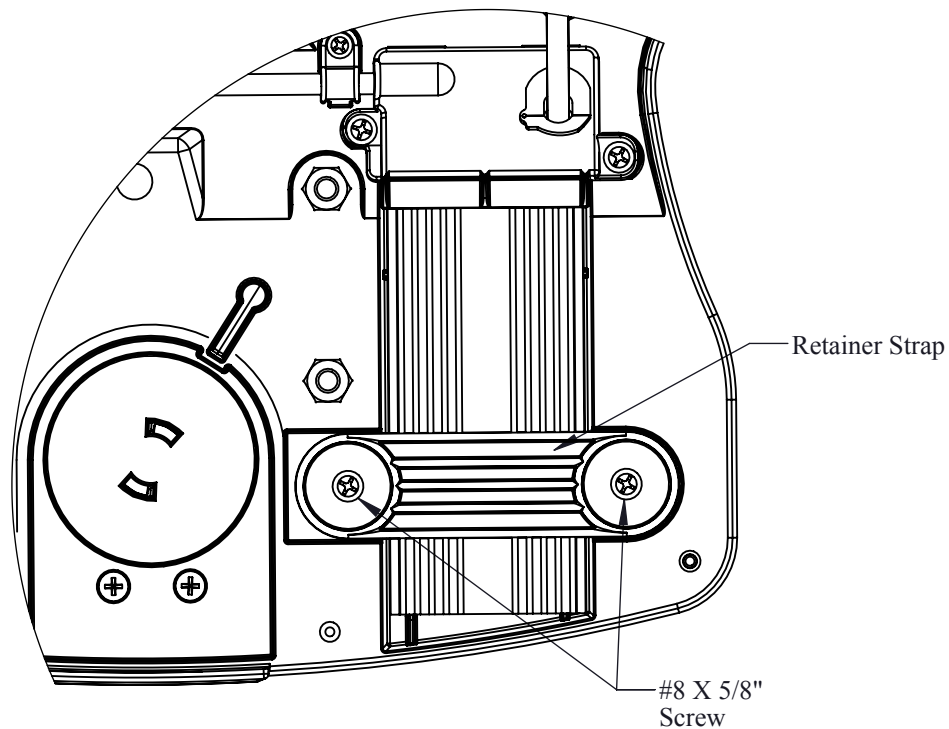

Fig. 3
10. Place Retainer Strap into pocket provided and attach with 2 #8 X 5/8" screws (Fig. 3).